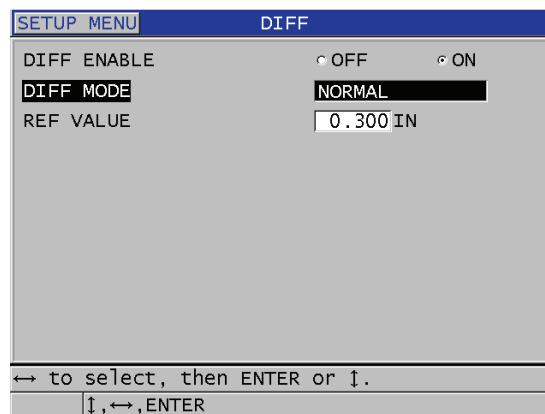

Figure 8-2 The DIFF screen
3. In the **DIFF** screen (see Figure 8-2 on page 105):